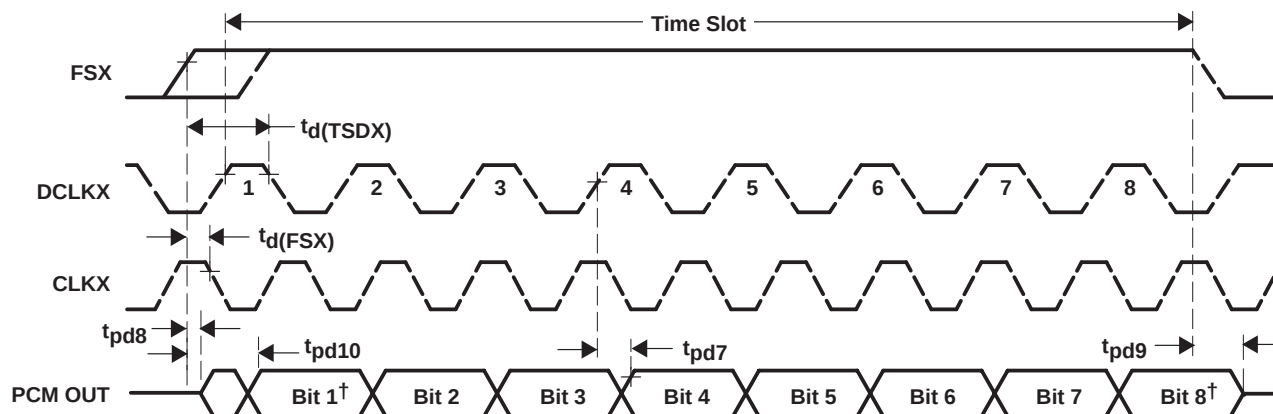

Figure 5. Transmit Timing (Variable-Data-Rate)
transmit timing requirements over recommended ranges of supply voltage and operating free-air temperature, fixed-data-rate mode (see Figure 5)
**propagation delay times over recommended ranges of operating conditions, variable-data-rate mode (see Note 11 and Figure 5)**